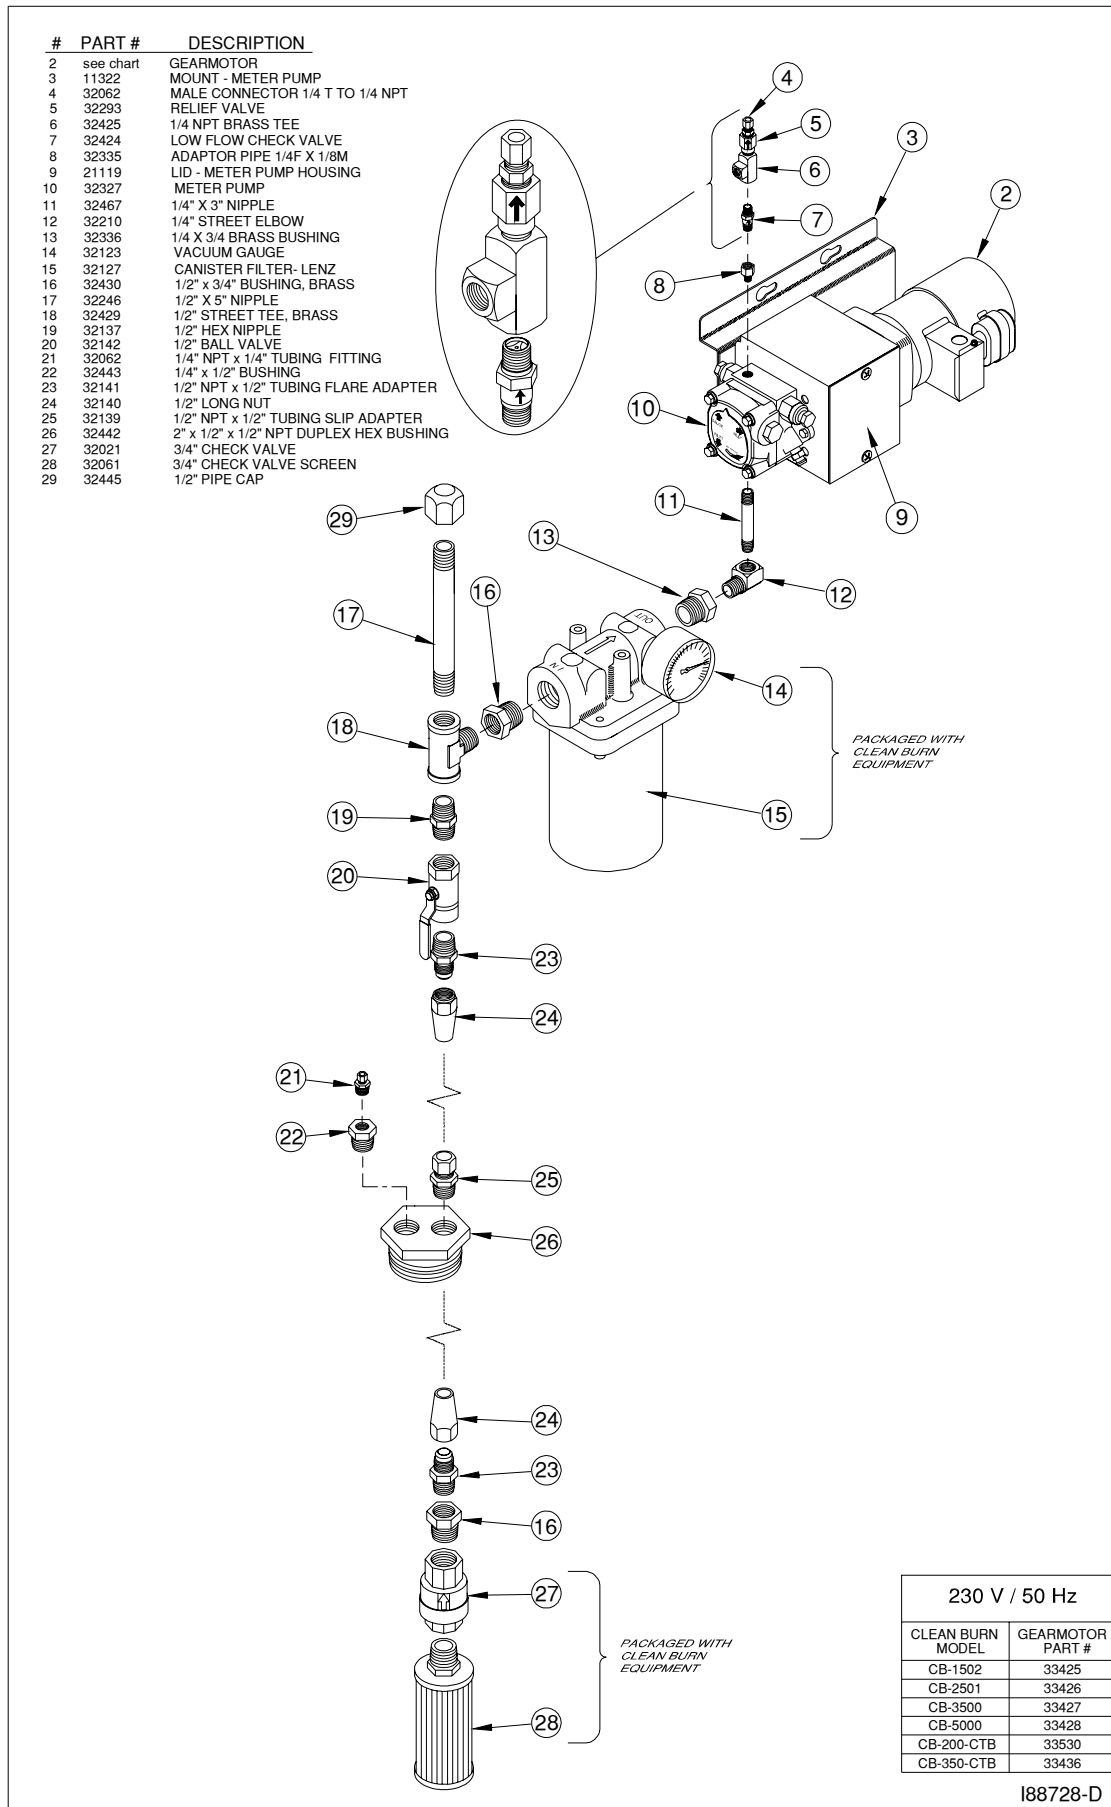

Figure 4H - Metering Pump Component Detail
- Verify that you have the proper metering pump for your furnace (note the specific gear motor part numbers shown in Figure 4H).
1. Refer to Figures 4H and 4I.
- All suction oil line components must be installed as shown in Figures 4H and 4J. **Suction line size is 13 mm (1/2") diameter.** Proper installation allows the suction oil line to be filled with used oil during initial priming.
- a. Refer to Figure 4H for a detailed look at the metering pump components and fittings.
- Install the canister filter assembly onto the 1/4" brass street elbow as shown in Figure 4H. The canister filter must be installed with the arrow pointing towards the pump (direction of oil flow).
- a. Refer to Figures 4H and 4J. Prepare a piece of 1/2" O.D. copper tubing (user-supplied) which will function as the pick-up line from the tank to the canister filter. This copper tubing must have the following specifications:
The metering pump requires the installation of a pressure relief and low-flow check valve as shown in Figures 4H, 4J, and 4K.